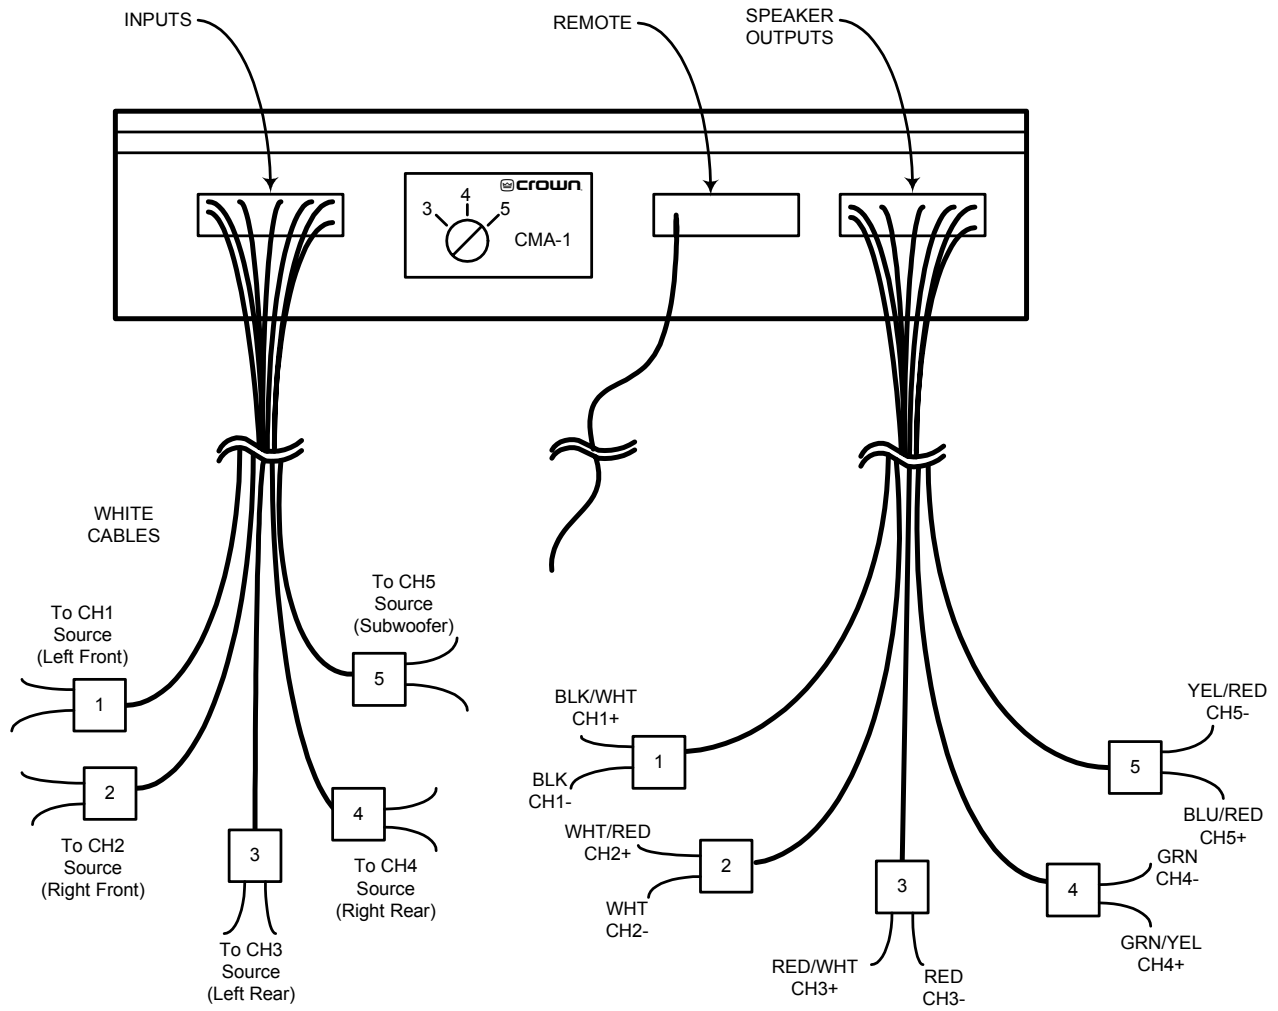

Fig. 5 5-Channel Connections
1. Refer to **Figure 5** for the following connections:
3. Refer to **Figure 5**. Connect the speakers as follows. Route the CMA-1 colored output cables separate from its white input cables to prevent oscillations. Using crimp terminals, connect the CMA-1 colored cables to the speaker terminals, taking care to observe the cables colors and polarities noted below: